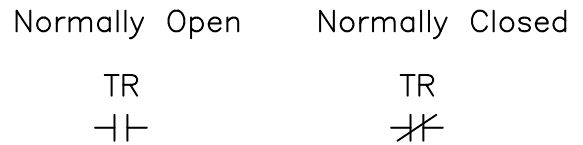
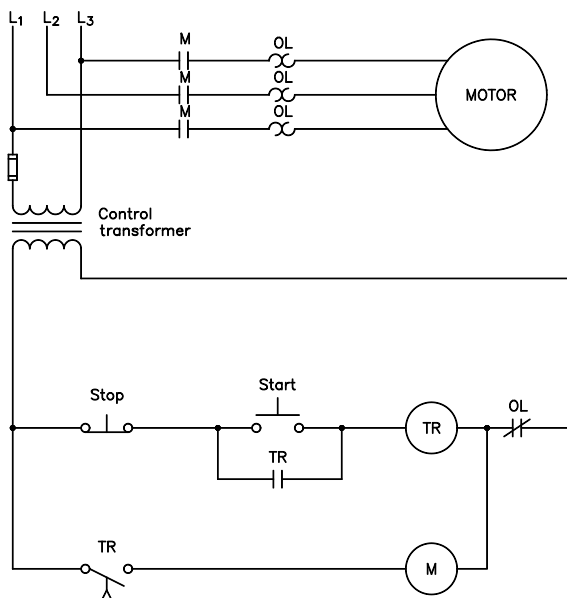

Figure 31-2 Instantaneous contact symbols.
Figure 31-3 The motor starts after the start button is pressed.
Instantaneous contacts are drawn in the same manner as standard relay contacts. Figure 31-2 illustrates a set of instantaneous contacts controlled by timer TR. The instantaneous contacts are often used as holding or sealing contacts in a control circuit. The control circuit shown in Figure 31-3 illustrates an on-delay timer used to delay the starting of a motor.
3. Refer to the circuit shown in Figure 31-3. If the timer has been set for a delay of 10 seconds, explain the operation of the circuit when the start button is pressed.
4. In the circuit shown in Figure 31-3, is it necessary to hold the start button closed for a period of at least 10 seconds to ensure that the circuit will remain energized? Explain your answer.
5. Assume that the timer in Figure 31-3 is set for a delay of 10 seconds. Now assume that the start button is pressed, and after a delay of 8 seconds the stop button is pressed. Will the motor start 2 seconds after the stop button is pressed?